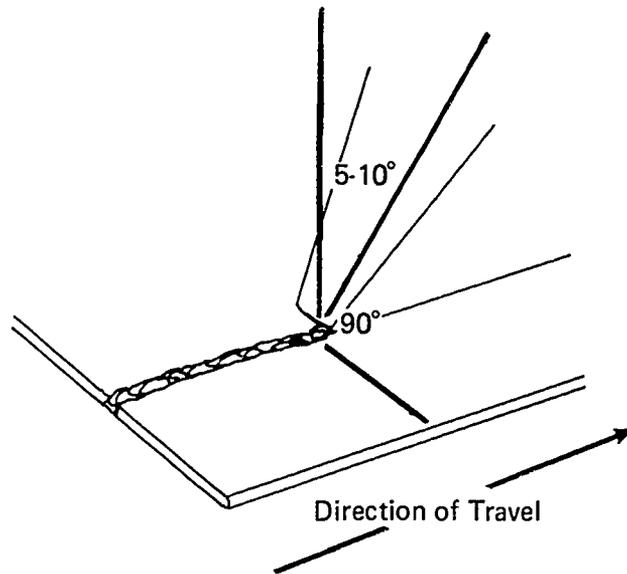

FIGURE 3
- F. Position gun nozzle at 90° angle to both pieces of metal and angled 5° - 10° in direction of travel with electrode wire centered in middle of joint (Figure 3)